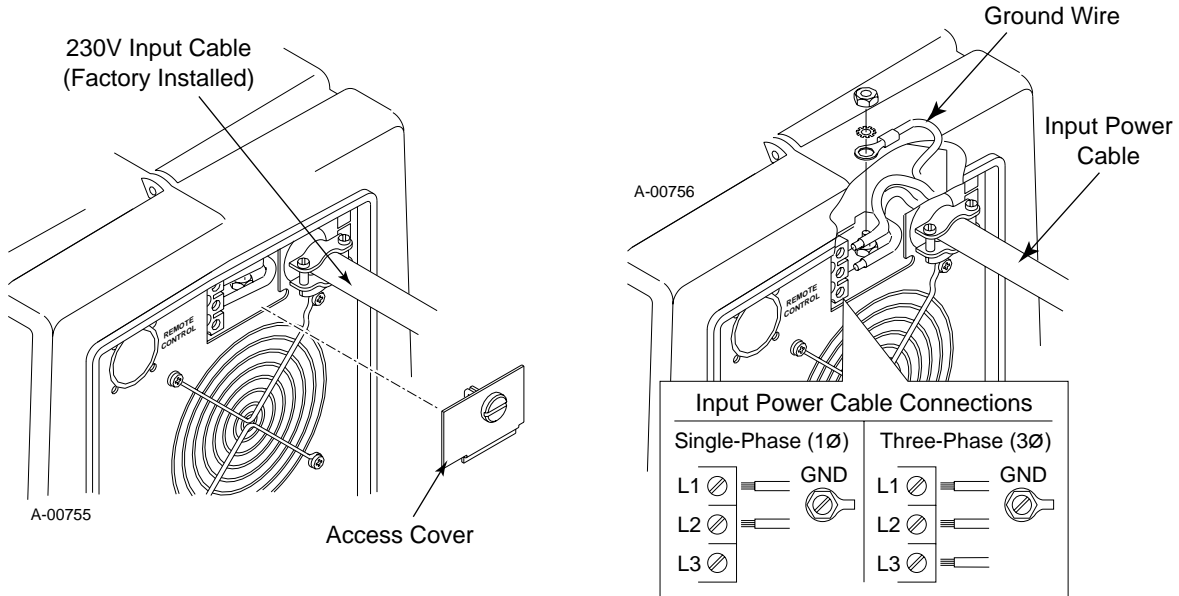

Figure 2-C Input Power Cable Connections
4. Connect the input power cable according to Figure 2-F. Terminal L3 is not used for single-phase connections.